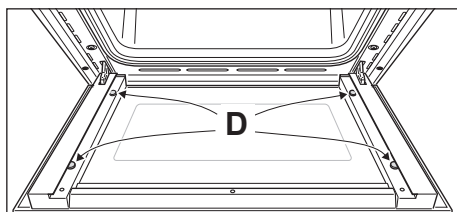

Figure 46
- Check that the four rubber pads are in place ("D" in fig. 46).